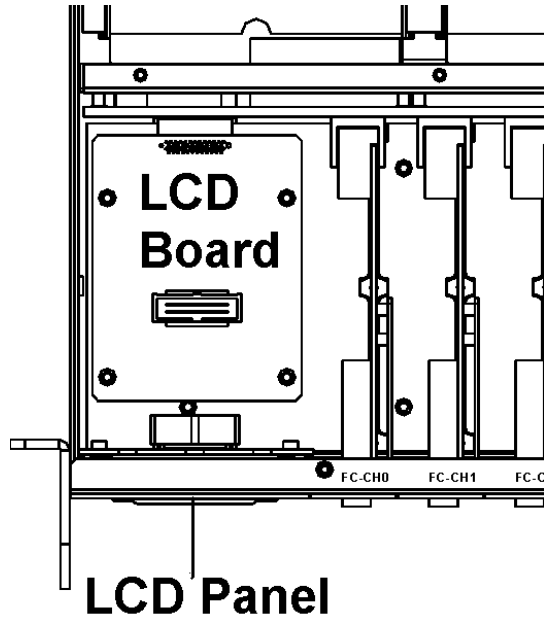

Figure 6-2: LCD Board
**Step 1. Locate the LCD Board** - The LCD board can be found at the rear of the LCD Panel. See *Figure 6-2*.